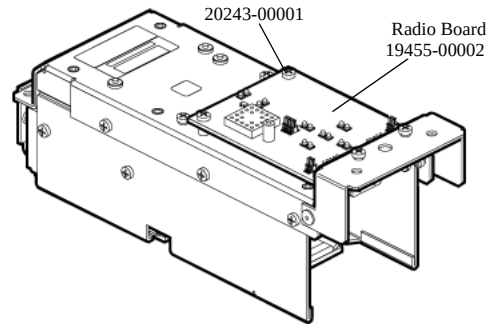

Figure 9-8: Remove or Install Radio Board
3. Insert 4 M3 x 6 fasteners (20243-00001). Use a 2.5mm wrench to drive each screw and torque to 0.8-1.0 N-m. See Figure 9-8.